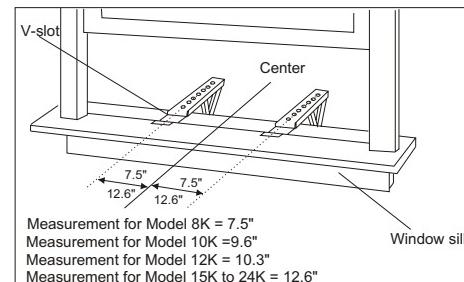

Fig. 6
**B.** Measure the inside window sill width and find the center as shown in (Fig. 6). Align the **V-slot** in each bracket on these marks and mount the brackets to the sill using **3/4" screws** provided. Brackets should be perpendicular to the inside window sill. See (Fig. 6).